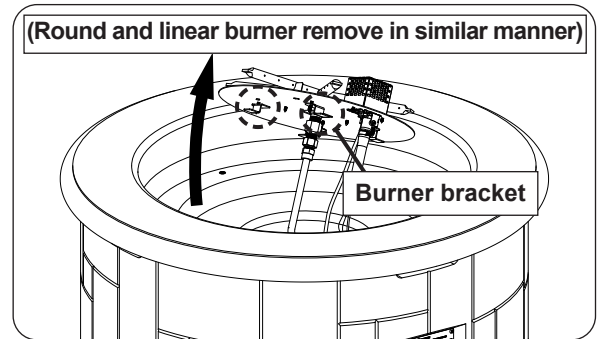

Fig. 45-1 Remove burner assy
1. The burner will need to be removed. Remove all media. Use a $\frac{5}{16}$ " nut driver to partially unfasten the 4-8 screws found on the burner assembly. Then carefully remove the burner and set it off to the side. See Fig 45-1.